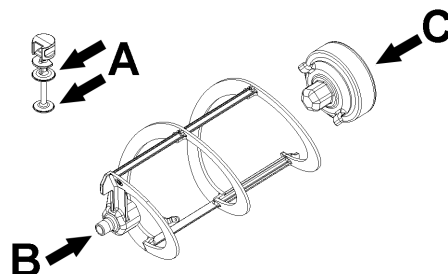
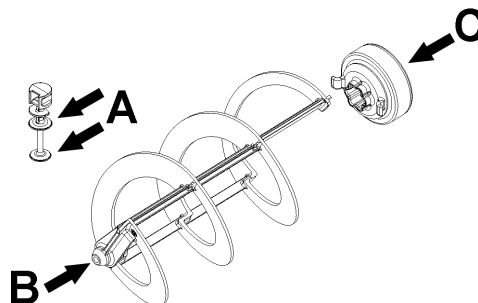

figure 19
figure 20
**2** Lubricate the tap piston, the hexagonal joint and the mixer at the points indicated in figure 19 (NG6) or figure 20 (NG10), using only the grease that came with the machine or other grease for use with food.